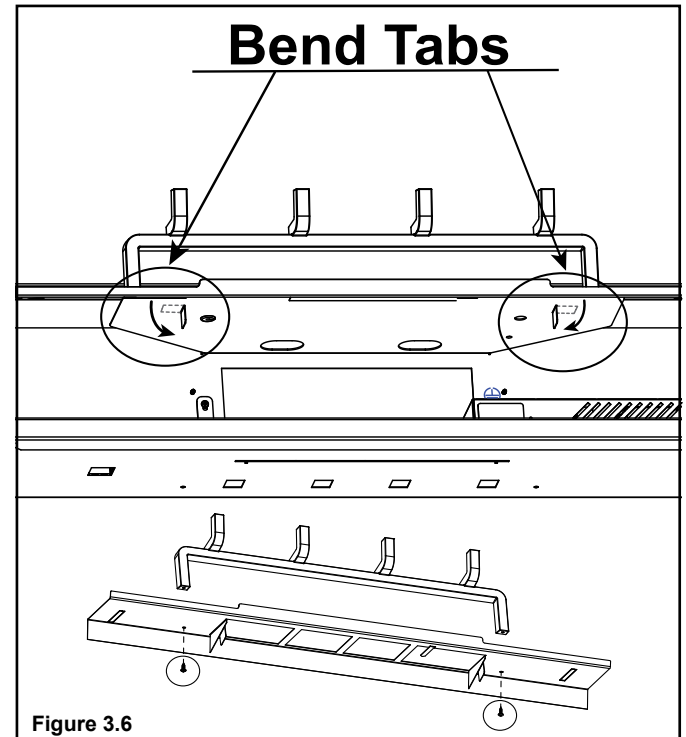

Figure 3.6
3. From the underside of the Display Bracket Shelf, bend the two tabs securing Ember tray straight downward. See Figure 3.6.
2. Remove the two Phillips screws securing the Grate to the Ember Tray. See Figure 3.6.